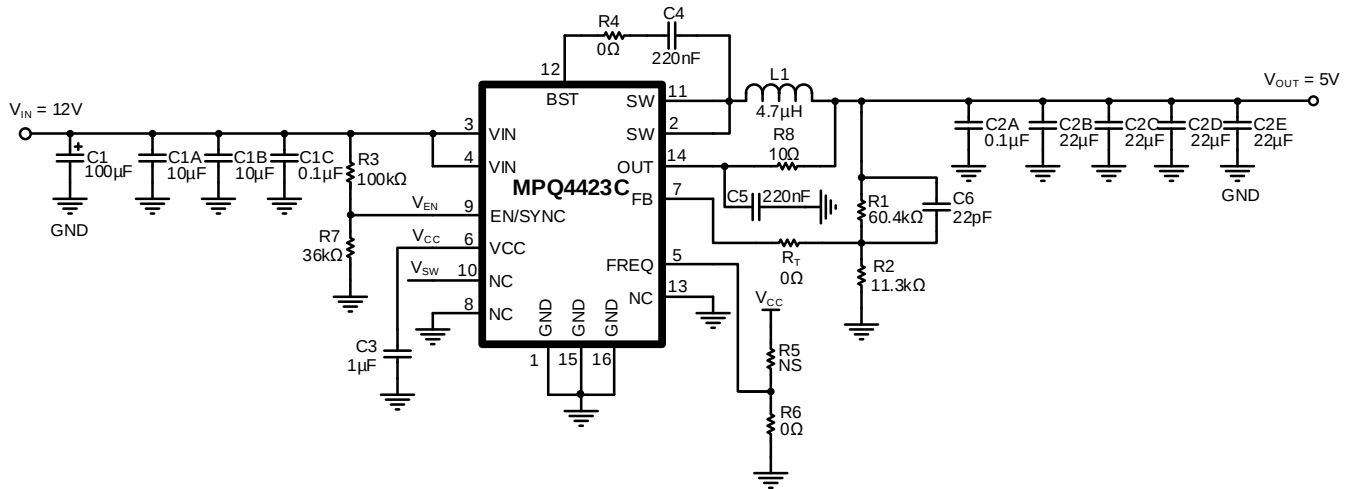

Figure 9: Typical Application Circuit ($V_{IN} = 12V$, $V_{OUT} = 5V$, $I_{OUT} = 6A$, $f_{SW} = 420kHz$ with FSS)
- 11) The recommended PCB layout is based on the typical application circuit with a 5V V_{OUT} , 6A I_{OUT} , and 420kHz f_{SW} with FSS (see Figure 9 on page 19).